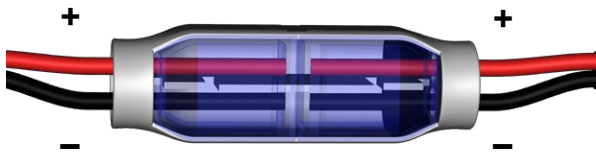

Figure 12b. Conductors must be fully inserted into the CoolSplice connector, and polarity must match
7. Attach the support cables and wiring using the same procedure as before. Make sure the positive and negative conductors align with the ones on the opposite side (Figure 12b). *Polarity must match!*